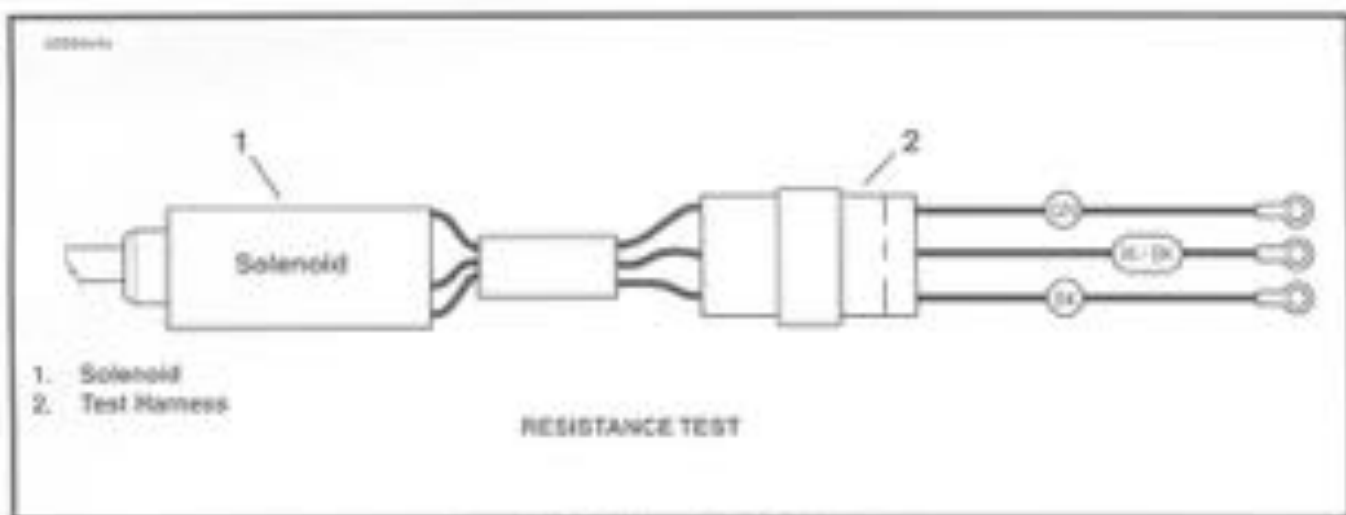

Figure 4-17. Resistance Test Connections
2. See Figure 4-17. Connect the test harness to the solenoid as shown.
- A. A good ground (1 Ohm or less) at BK wire in the 3-place mating connector (Item 3, Figure 4-17).